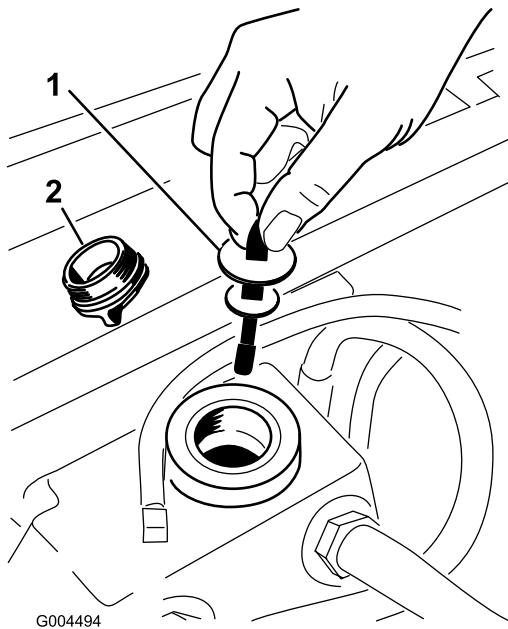

Figure 76
3. Remove the hydraulic fill cap (Figure 76) from filler neck.
4. Remove the dipstick and wipe it with a clean rag (Figure 76).
5. Place the dipstick into the filler neck; then remove it and check level of fluid (Figure 76).